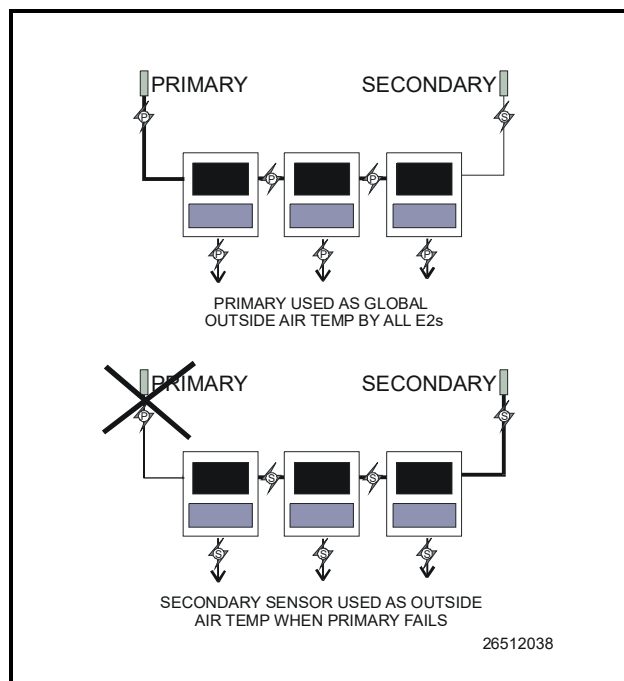

Figure 10-45 - Global Data Priority Example
**Example:** Out of three E2s, an outside air temperature sensor on E2 A’s I/O Network is set up as the primary provider of the global Outside Air Temp input. A similar sensor is set up on E2 C with a secondary priority (see **Figure 10-45**).